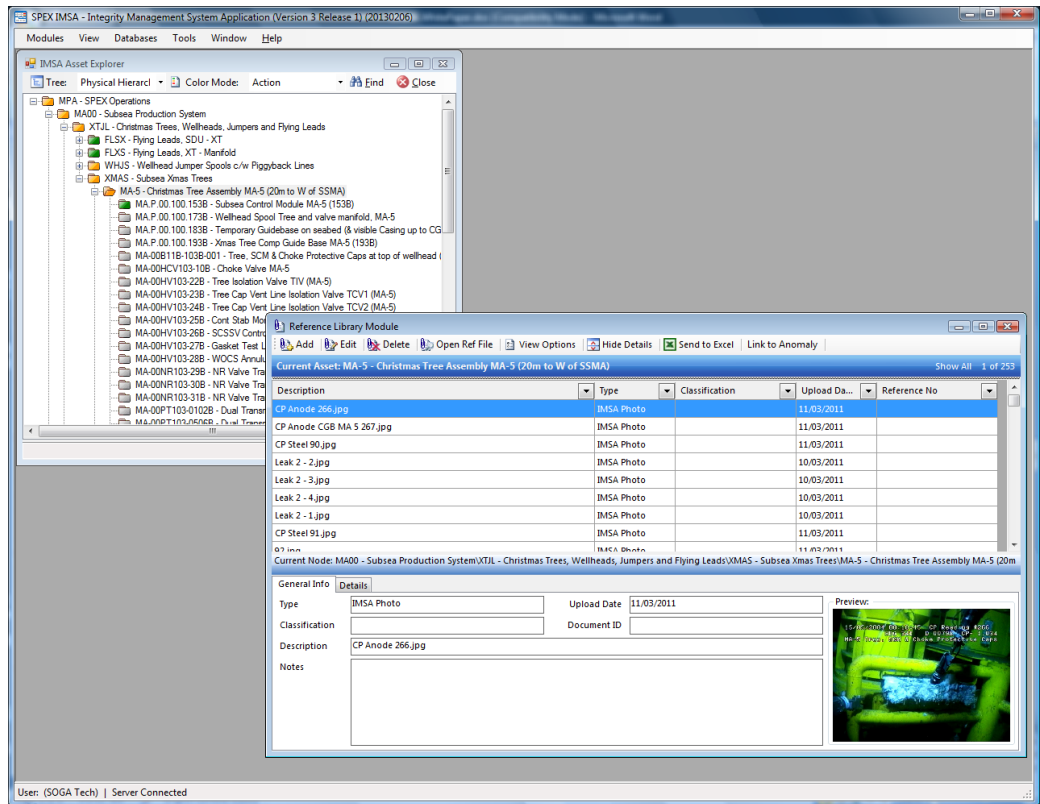

Figure 3 - Easy Access to Data and Multimedia
- Making data and multimedia easily available (Figure 3)